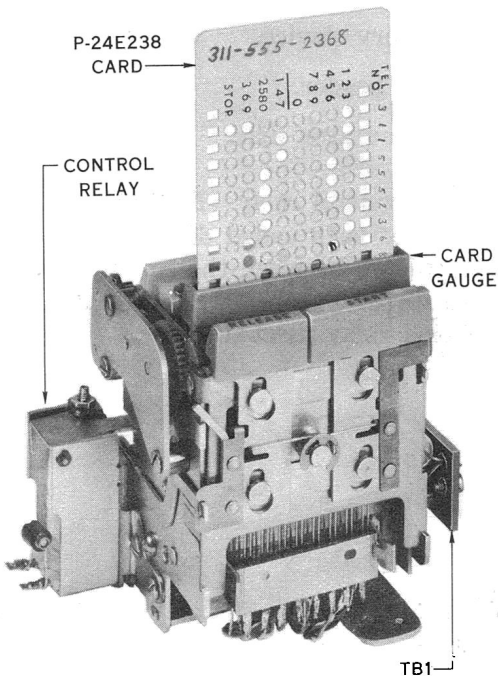
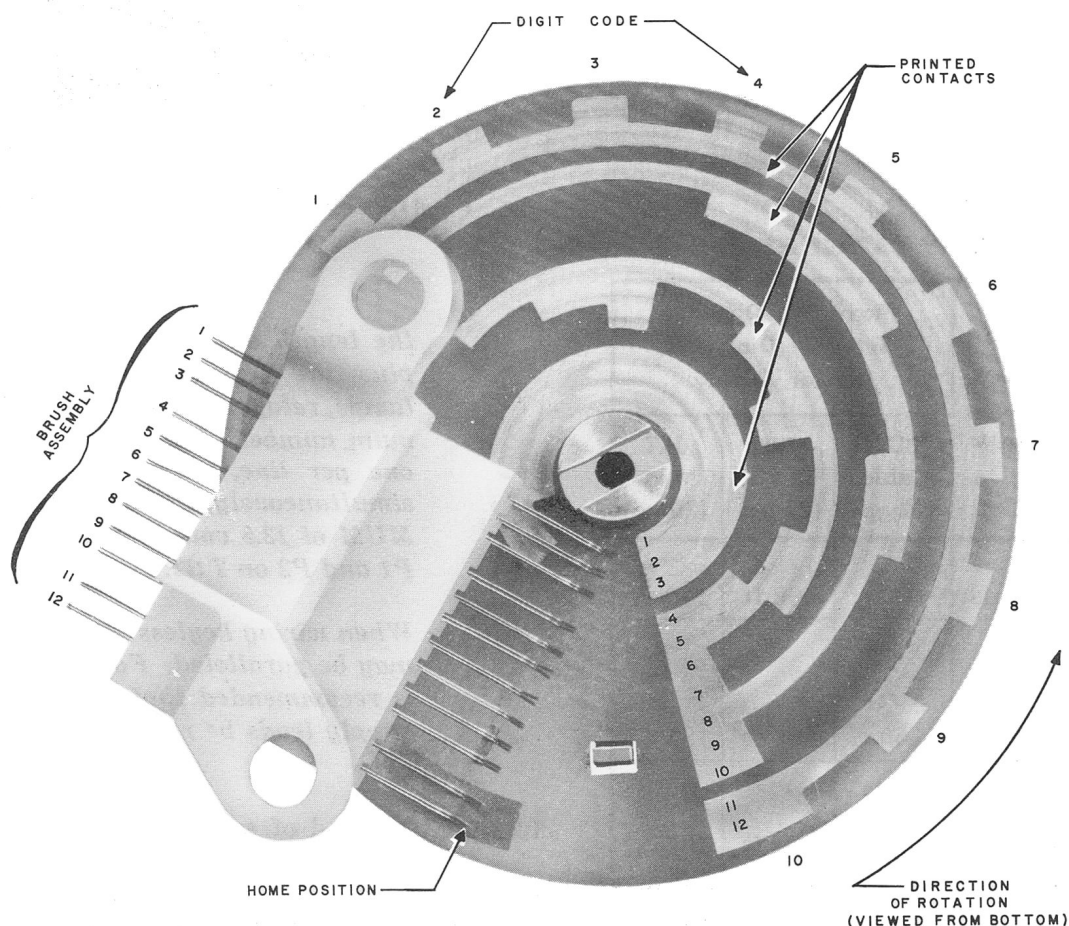

Fig. 1 — 41A Dial with Card Inserted, Front View
Fig. 2 — Commutator Disc, Bottom View
1.05 At the end of each pulsing cycle or coded digit, the commutator disc returns to a home position. (Fig. 2). The home position is provided to ensure that each pulsing cycle will start from the same relative point on the commutator disc.
2.02 The control relay (Fig. 1) operates at the end of each coded digit over the electrical path completed between the commutator disc and the wire spring brushes. (See Fig. 2.) The operation of this relay mechanically:
2.03 The memory device is an injection-molded P-24E238 plastic card. (Fig. 1). The card has eight vertical columns of 14 circular slugs each. Seven of the columns are used for digit information and one for the dial stop function.
2.06 The commutator disc (Fig. 2) is a fiber disc with printed gold contact surfaces. The contact surfaces are arranged in 12 circular arcs. Wire spring brushes ride the contact surfaces to establish switching circuits as the disc rotates.
3.01 A telephone number is coded on the P-24E238 card. This is accomplished by removing two slugs in each horizontal row (Fig. 1) for each digit of the telephone number. The first digit is punched in the top row with the STOP code which is prepunched. The rest of the digits follow row by row until the complete telephone number has been coded. More detailed information on coding the P-24E238 card is located in the sections covering telephone sets using the 41A dial.